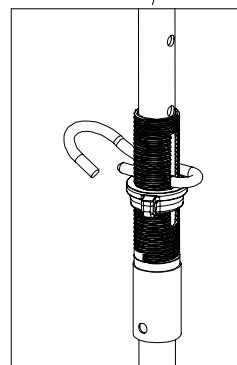

Fig. A1.16b
1. Disconnect all PD 5 Beam Spindles (12) with G-hooks (Fig. A1.16b) in advance and insert into the frame of the top level.